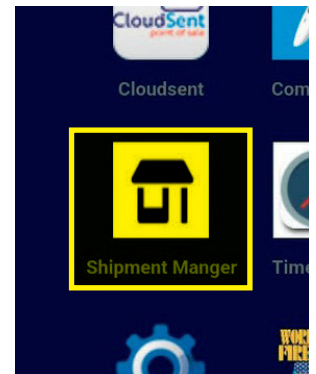

Figure 1
1. Select **SHIPMENT MANAGER** app on the tablet (Figure 1).